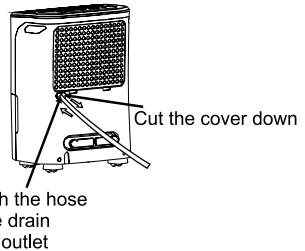

Fig. 7
- Cut the cover down from the back drain hose outlet. Attach a drain hose(D=13.5mm) and lead it to the floor drain or a suitable drainage facility(see Fig.7).